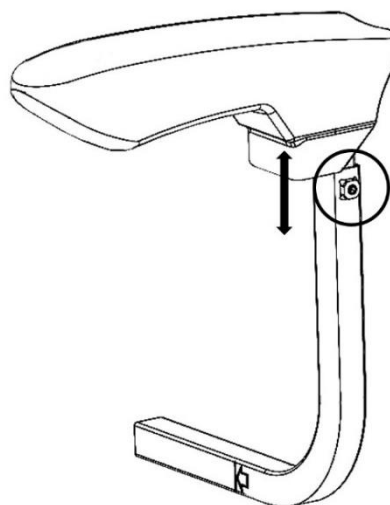

Figure 5.10
5.17.2 Use 4mm Allen Key to loosen the height adjustment bolts under the armrest pad. (See Figure 5.10)